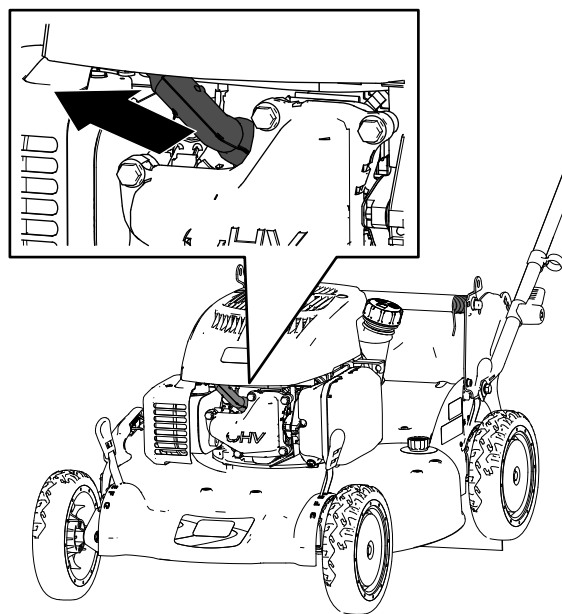

Figure 24
2. Disconnect the spark-plug wire from the spark plug (Figure 24).